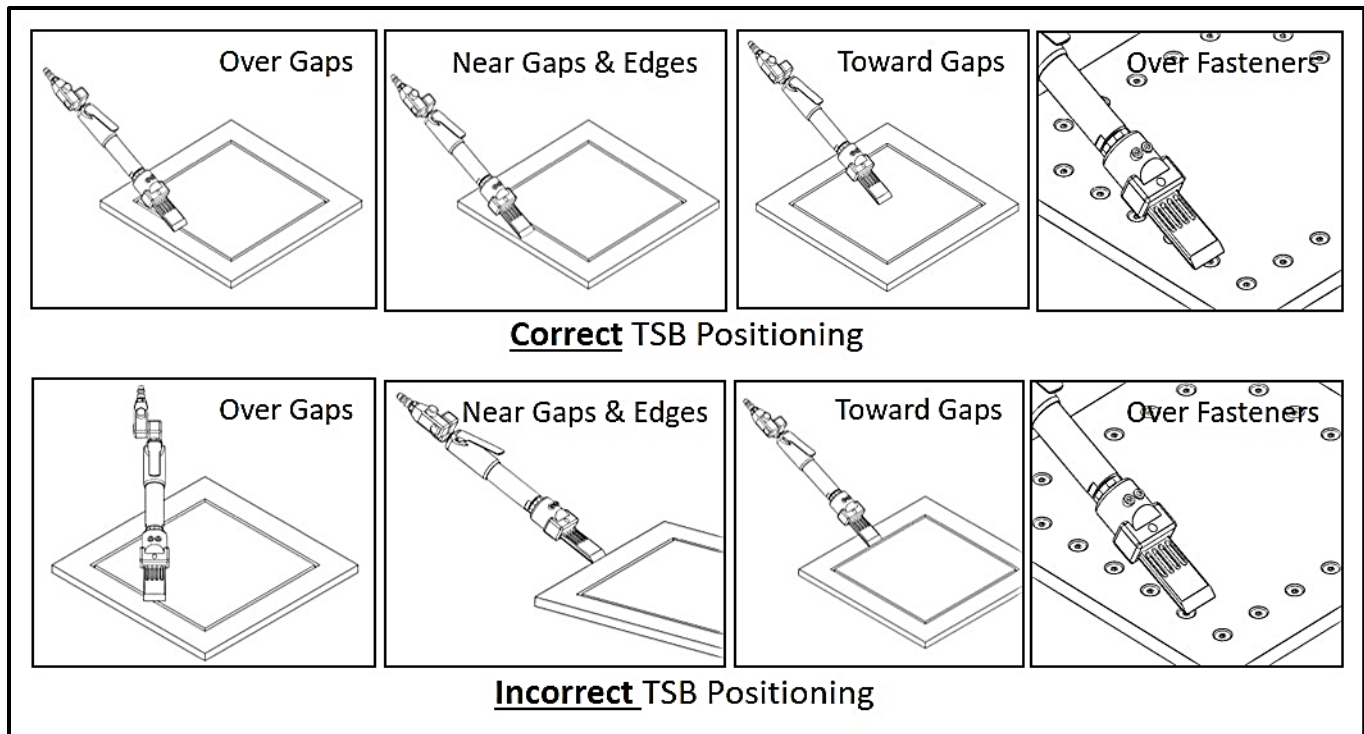

Figure 4. Material Removal Using TSB
- 3.1.4. Ensure proper positioning of the TSB and proper direction of material removal when removing materials near edges of structures, gaps and fasteners. Care must be taken to avoid blade contact with composite structure edges during initial blade engagement with the coating, boot or tape and during removal. When near part edges, removal should precede parallel to the edges. Blades should span gaps and fasteners. See **Figure 4**.